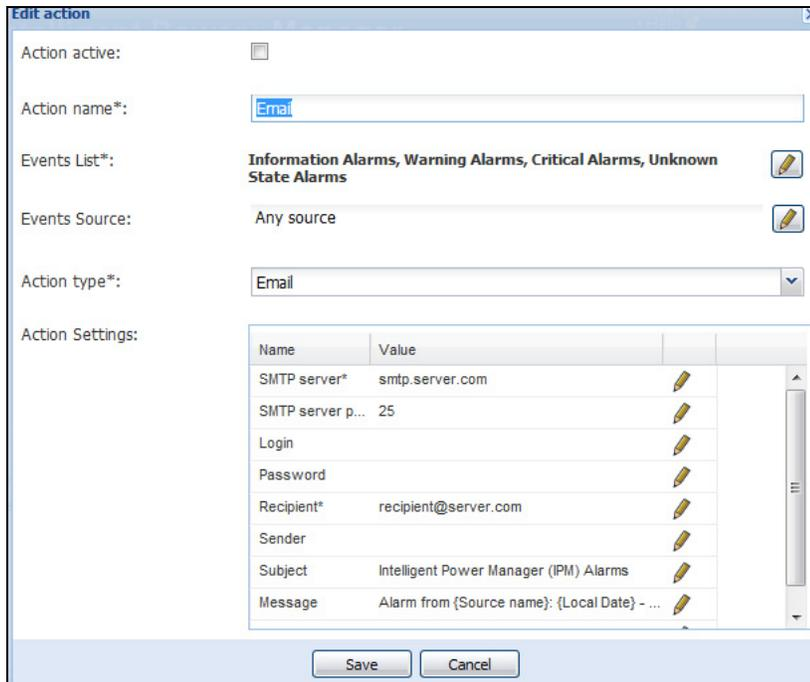

Figure 26. Editing a Selected Action
1. Select the action to edit in the list of actions and selecting the “Edit selected action” command in the right panel (see Figure 26).